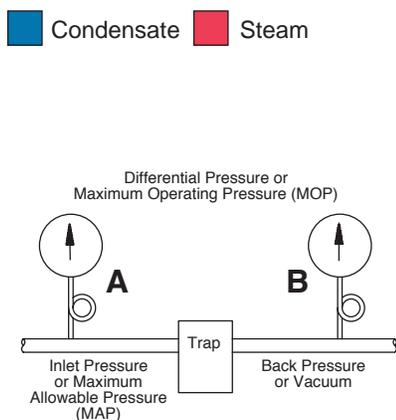

Figure 11-24. “A” minus “B” is Pressure Differential: If “B” is back pressure, subtract it from “A.” If “B” is vacuum, add it to “A.”
3. Pressure differential. Maximum differential is the difference between boiler or steam main pressure or the downstream pressure of a PRV and return line pressure. See Fig. 11-24. The trap must be able to open against this pressure differential.
4. Maximum allowable pressure. The trap must be able to withstand the maximum allowable pressure of the system or design pressure. It may not have to operate at this pressure, but it must be able to contain it. As an example, the maximum inlet pressure is 350 psig and the return line pressure is 150 psig. This results in a differential pressure of 200 psi; however, the trap must be able to withstand 350 psig maximum allowable pressure. See Fig. 11-24.